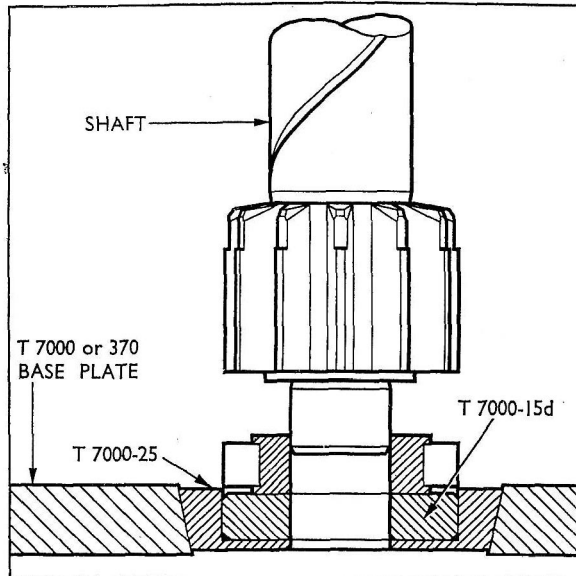

Fig. 47
3. Press the large bearing onto the rear of the main upper shaft using Tool No. T.7000 and the adaptors shown in Fig. 47.